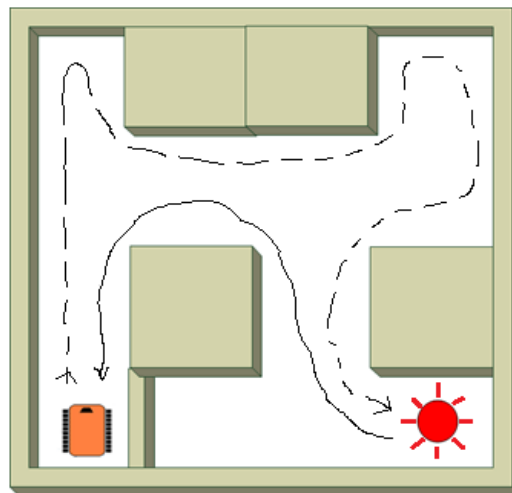

Figure 9: Heat or Light Search Bot
3. The robot should then plan a path back to the home location and show the location of the source on the LCD. See Figure 9 for an example of the search and home task.